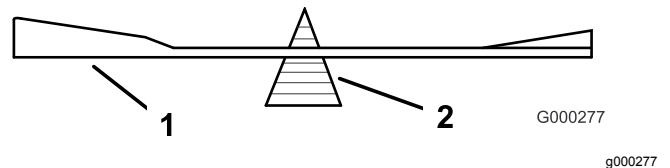

Figure 105
2. Check the balance of the blade by putting it on a blade balancer (Figure 105).